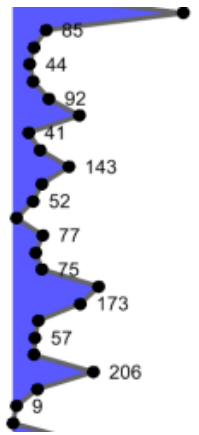

Figure 1.178 – The Display fill, symbols, and labels on the line/symbol log.
19. Press ENTER on the keyboard and the labels are moved to the right side of the symbols with an offset by 0.150 inches from the center of the symbol, fig. 1.178.